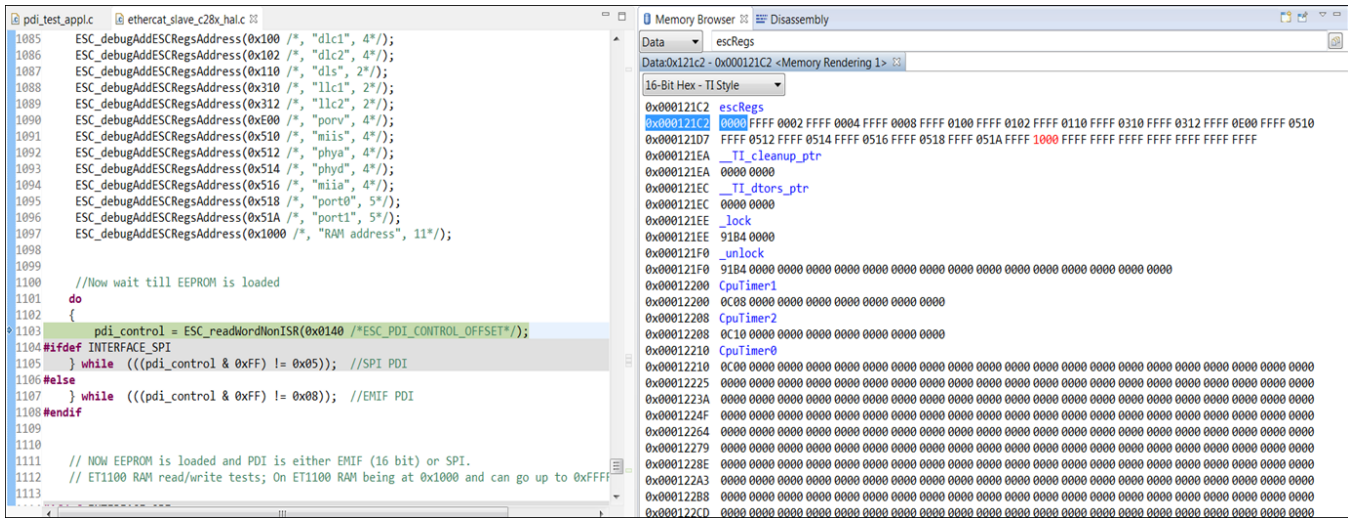

Figure 33. Device Debug Memory Window at INIT Time
3. Start the debugger and open the memory browser window as shown in Figure 33. The “escRegs” data array contains a list of ET1100 register addresses and values. These get updated in the `ESC_debugUpdateESCRegLogs()` function.